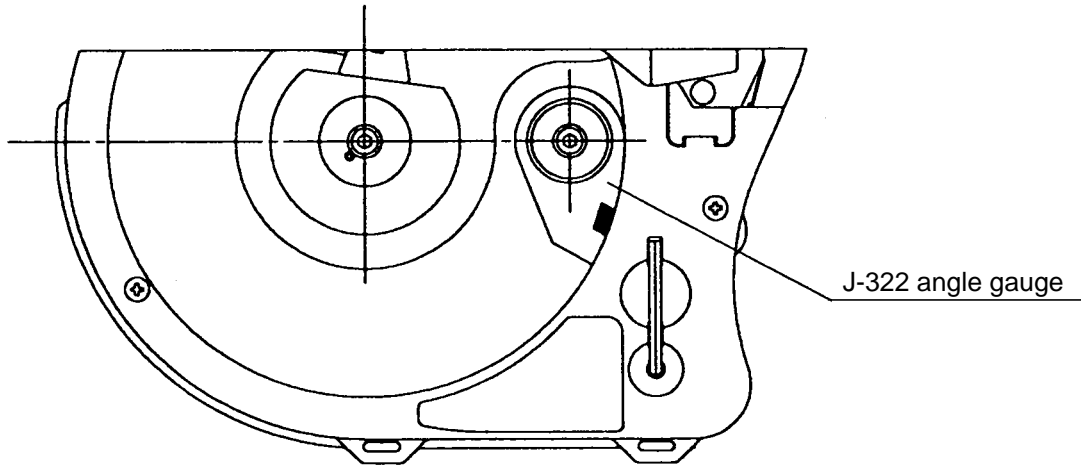

Fig. 29
#### (1) Adhering the angle gauge (Fig. 29)